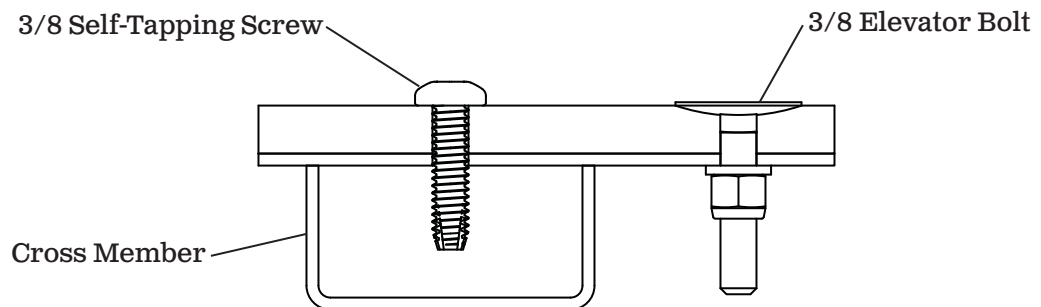

Figure 18
1) **Figure 18.** Measure from bulkhead to cross members and mark the location on the liner. Use 3/8 self-tapping screws into cross members to hide screws from the outside. If 3/8 elevator bolts are used, access to the bolt from underneath is needed to install the lock washer and nylon nut.